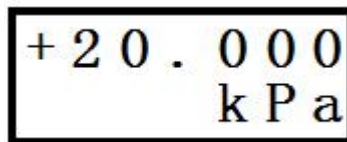

Figure32
6.5 Enter "Right" ten times to change the character from "4" to "2", as shown in Figure32;